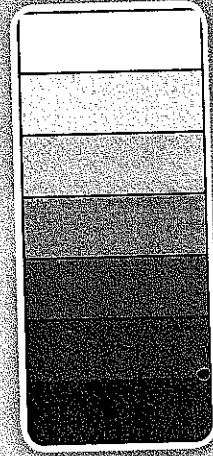

Figure 5-25:
- Step 3.** Shade in the five bars between white and black in equal steps from very light to very dark gray. Try to make each bar just one shade, very even and smooth. A light pressure on the pencil will give you a light tone; a heavier pressure can give you a very dark tone. These principles apply to both regular and colored pencils. As you move the pencil back and forth, you can blend in the tone, going back over places you have missed. Getting a smooth, even tone takes practice and patience (see Figure 5-25). It is better to use a lighter pressure and go over an area several times than to use a heavier pressure and end up with a streaked, uneven effect. Caution: It is best to start at the top of the scale (lightest gray) and work your way down the scale. Be conservative—it is always easier to darken than to lighten.